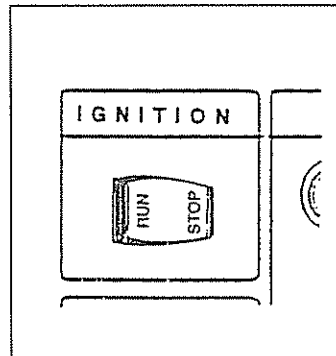

FIG. 9
- Set the Run/Stop Switch (Fig. 9) to RUN position.
- Set the Run/Stop Switch to STOP position. Wait for engine to come to a complete stop (Fig. 9).